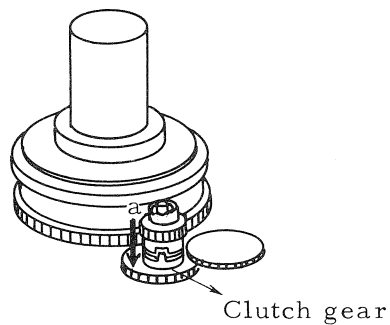

Fig. 27
(Note) Turn the clutch of the automatic manual switch gear while removing the clutch. (In the direction of arrow a in Fig. 27)
10. Turn the manual ring in the directions of arrows a and b until it stops. (When under the condition as shown in Fig. 27 it will turn lightly.)